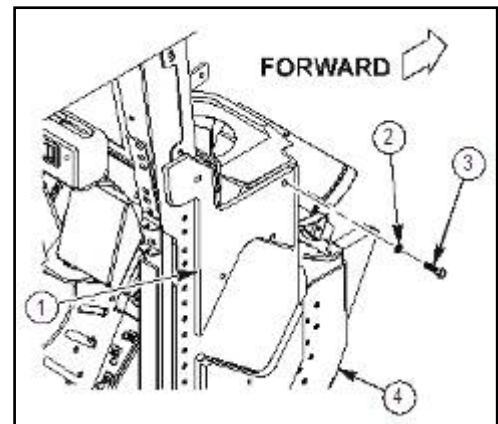

Figure 35b
24. Remove capscrew (3), washer (2), and existing right side A-pillar aluminum overlay (1) from vehicle (4) as shown in figure 35b. Discard all fasteners.